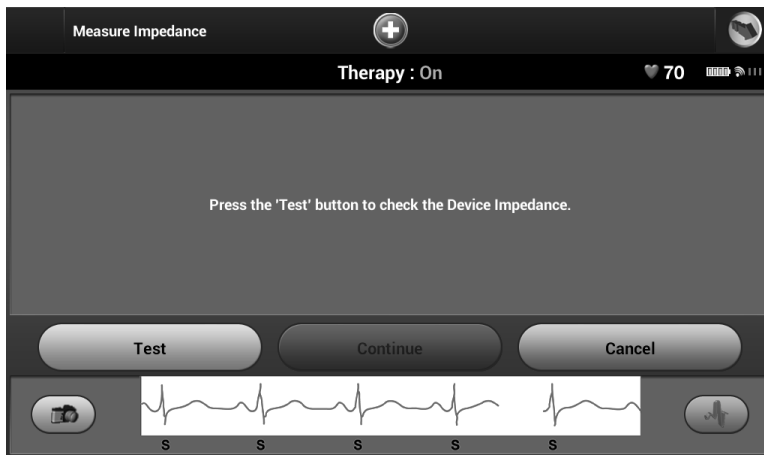

Figure 45: *Impedance test screen*
1. From the Utilities Menu, select the Manual Setup button. The Impedance Test screen appears (Figure 45).